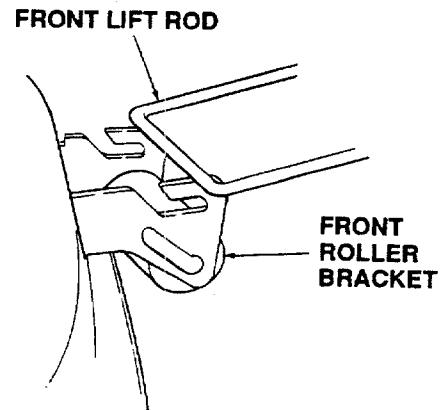

Figure 42
- Hold the front lift rod upward and slide the mower deck rearward. Lower the front lift rod, so it rests to the front of, and free of, the front roller bracket slots of the deck. (Refer to Figure 42.)